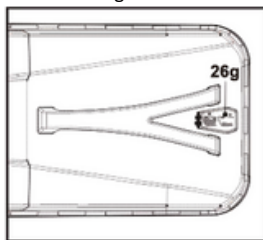

Fig. 15
2. When the hatch (26g) is closed, the catcher (26) is full and should be emptied (Fig. 15).